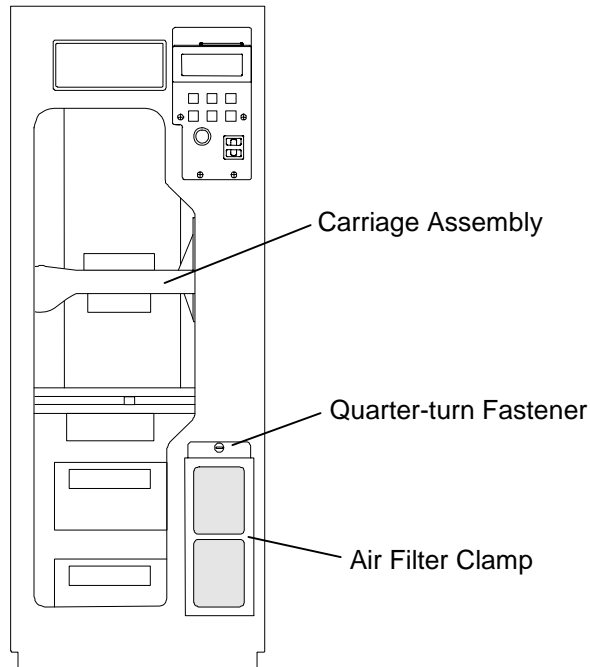

Figure 7-16 TLS Front View – 8222 Model Shown
Refer to **Figure 7-16**.
3. Use a flat-blade screwdriver to turn the single quarter-turn fastener at the top of the Air Filter Clamp counter-clockwise (**Figure 7-16**).
6. Replace the Air Filter Clamp and secure it by turning the single quarter-turn fastener clockwise. See **Figure 7-16**.
14. Replace the Air Filter Clamp and secure it by turning the quarter-turn fastener clockwise (Figure 7-16).